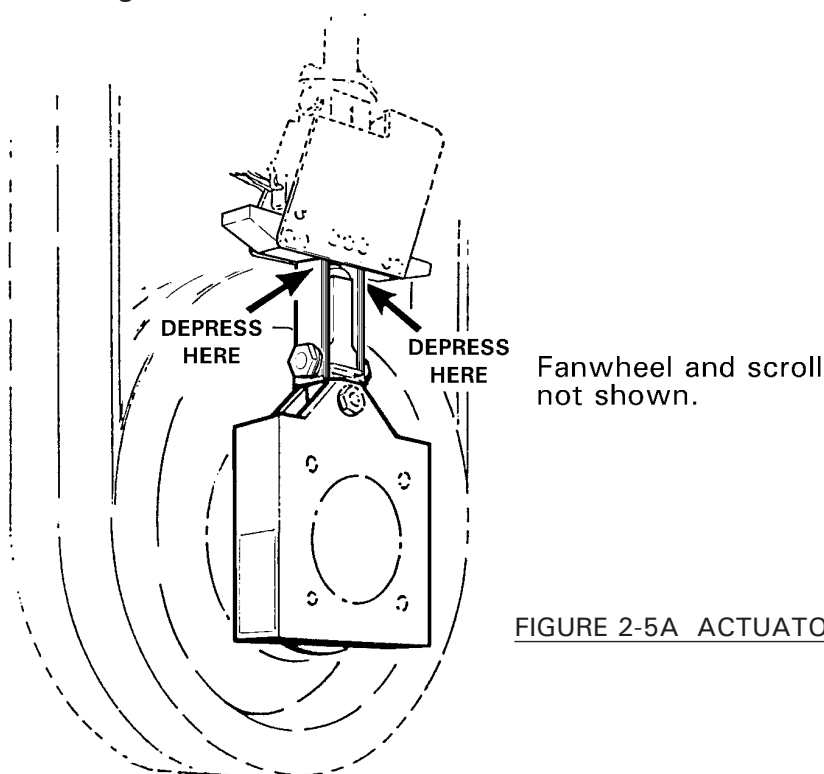

FIGURE 2-5A ACTUATOR FUNCTION TEST
- a. Refer to Figure 2-5A. Depress column springs on one side of actuator until springs snap inward (use large screwdriver or similar tool with several layers to tape over end to protect actuator). Hold springs inward for at least one second. Actuator motor should not run. If motor starts, allow motor to run approximately two seconds, then release pressure on column springs. Depress column springs again. If motor starts again, opposite spring switch does not function properly. _____